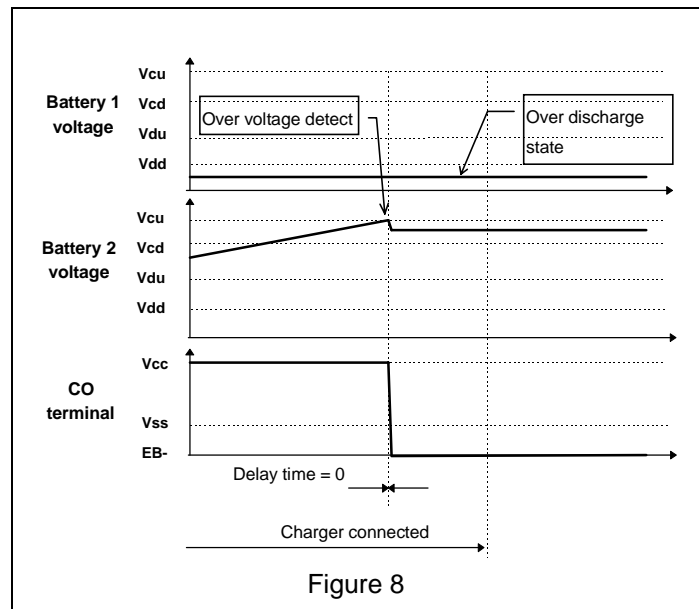

Figure 8
(2) When one of the battery voltages is over discharge detection voltage(VDD1,2) or lower and the other one becomes higher than the over charge detection voltage(VCU1,2), the IC detects the over charge without the over charge detection delay time(tCU). (Refer fig.8)
This phenomenon occurs when one battery voltage is lower than over discharge voltage(VDD1,2) and batteries are charged by charger. Under this situation voltage difference between two batteries is unusual. With out delay time is better than long delay time for battery pack safety.(Refer fig.8)